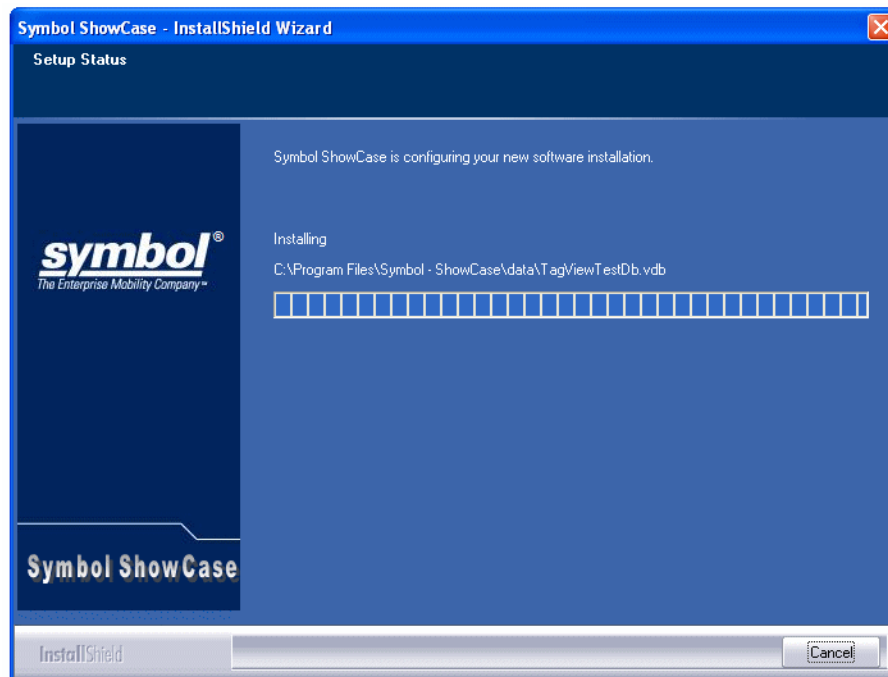

Figure 2-6. Setup Status Window
5. Click **Browse** to select a different installation folder, or click **Next** to accept the default location and continue with the installation, the *Setup Status* window appears (see Figure 2-6).